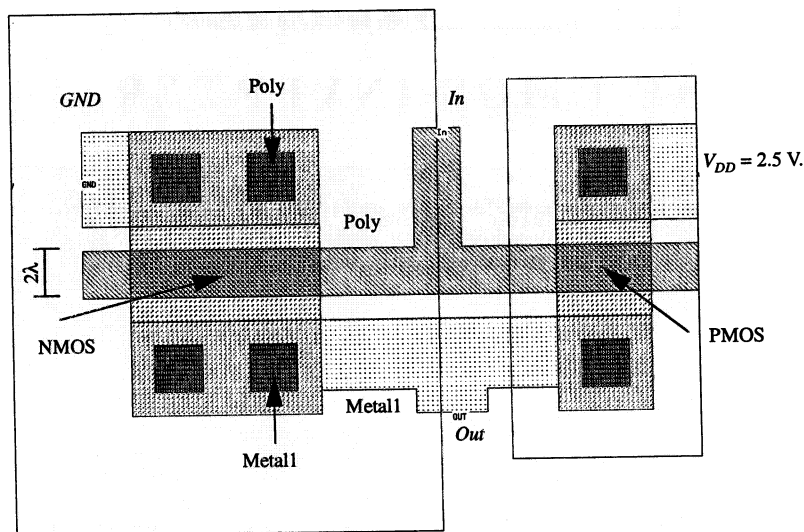

Figure 5.1 CMOS inverter layout.
1. [M, SPICE, 3.3.2] The layout of a static CMOS inverter is given in Figure 5.1. ( $\lambda = 0.125 \mu\text{m}$ ).